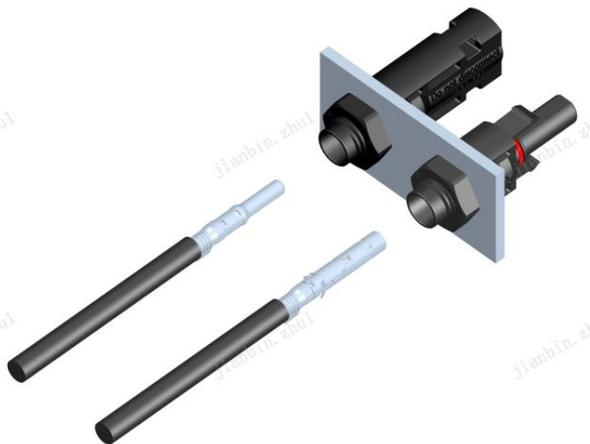

Figure 18
- ◇ 压接好的插针/插套插入到公端面板连接器/母端面板连接器内，直至其啮合（如图 18）。轻轻拉动导线，检查金属件是否啮合牢固（如图 19）。
Insert the crimped male or female terminals into corresponding male or female panel connectors separately until they engaged (Fig.18). Pull lightly on the lead to check that the metal part has engaged. (Fig. 19).